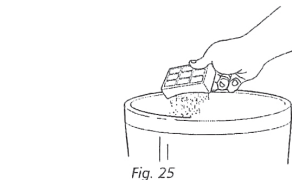

Fig. 25
- Turn the filter over so that the dirty side is on the bottom and vigorously tap it clean against a garbage can to remove any dust. (Fig. 25)